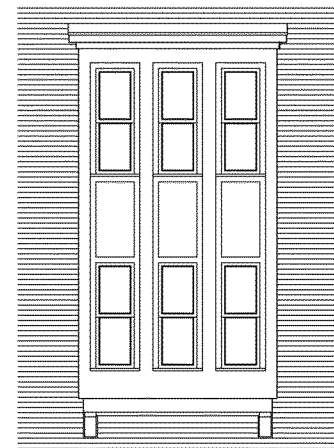

Figure 23
- » Bay windows on frontage elevations shall extend to the ground or visually appear to be structurally supported by brackets. See Figure 23.